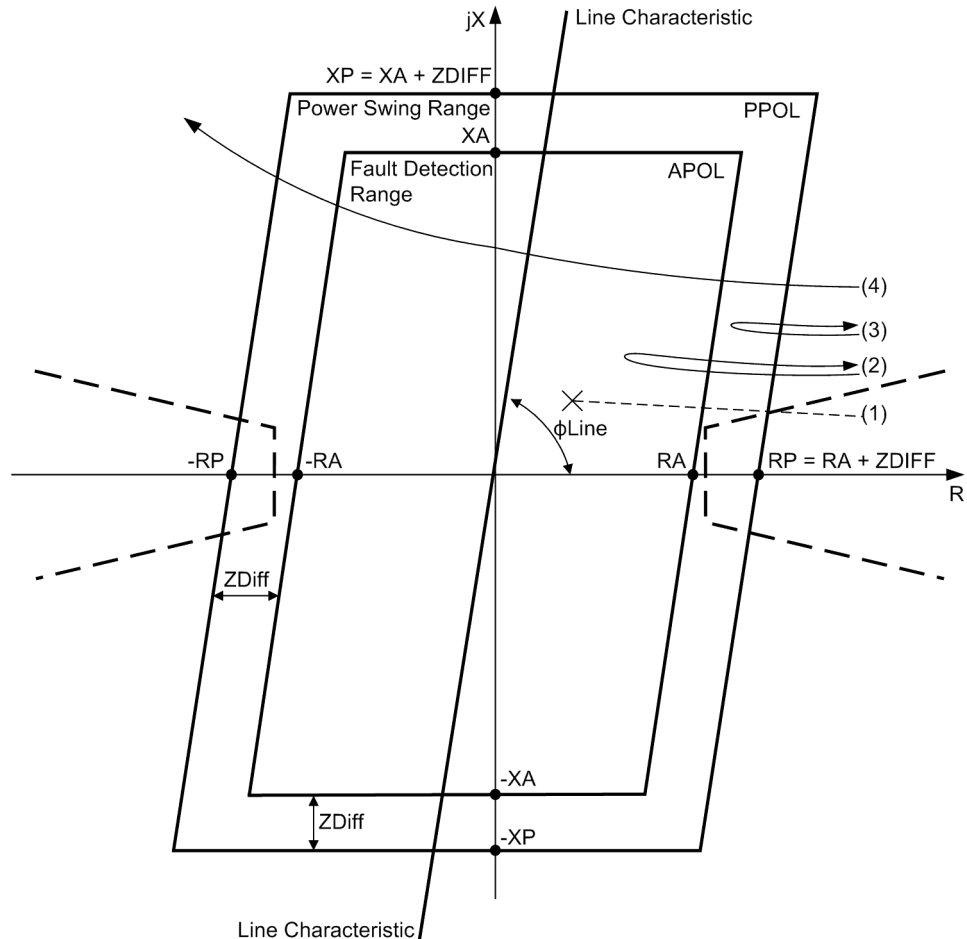

Figure 2-36 Pickup characteristic of the power swing detection for a polygon.
To detect a power swing, the rate of change of the impedance vectors is measured. The message is triggered when the impedance vector enters the power swing measuring range PPOL (refer to Figure 2-36) and the other criteria of power swing detection are met. The fault detection range APOL is made up of the largest set values for R and X (polygon characteristic) or of the largest set value for ZR (MHO characteristic) of all the activated zones. The power swing zone has a minimum distance Z_{Diff} of 5 Ω (at $I_{Nom} = 1$ A) or 1 Ω (at $I_{Nom} = 5$ A) in all directions from the fault detection zone. In the event of a short-circuit (1), the impedance vector abruptly changes from the load condition into this fault detection range. However, in the event of a power swing, the apparent impedance vector initially enters the power swing range PPOL and only later enters the fault detection range APOL (2). It is also possible that a power swing vector
When the impedance vectors identified by the power swing detection exit the power swing characteristic PPOL, the sign of the R components in the vectors are checked to see if they are the same on exiting and entering the pickup polygon. If this is the case, the power swing process is inclined to stabilize. Otherwise, the vector passed through the power swing characteristic (loss of synchronism, case (4) in Figure 2-36). Stable power transmission is then no longer possible. . The device outputs an alarm to that effect (No. 4163 "68 P/Swing unst"), provided that the parameter in address 2006 **68T P/S trip** is set to **NO**. The alarm No. 4163 "68 P/Swing unst" is a pulse with a duration of approx. 50 ms, which can also be processed further via output relay, e.g. for a cycle counter or a pulse counter.